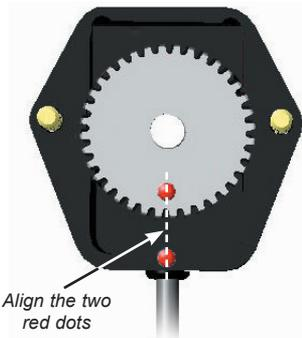

Fig B49 - Calibrating the rudder feedback unit
- iii) Calibrate the RFB by aligning the two red paint marks on the underside of the unit (Fig B49).